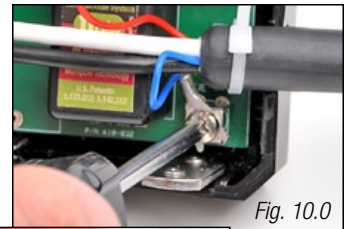

Fig. 10.0
**10** Attach the "input" side cable leads using a Phillips screwdriver. The circuit board is marked with the correct lead color next to each screw post. Attach the leads at a 45 degree angle to reduce stress on the connector. (Fig 10.0 and 10.1)